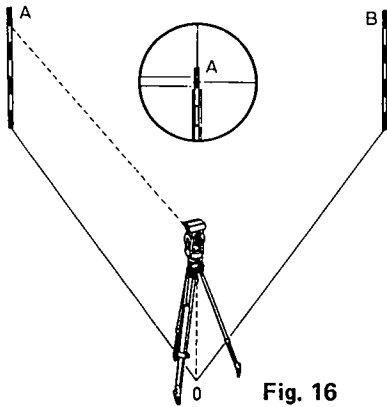

Fig. 16
- a. Sight the first target A. (Fig. 16)
- b. Turn the micrometer knob ② to read the horizontal circle.